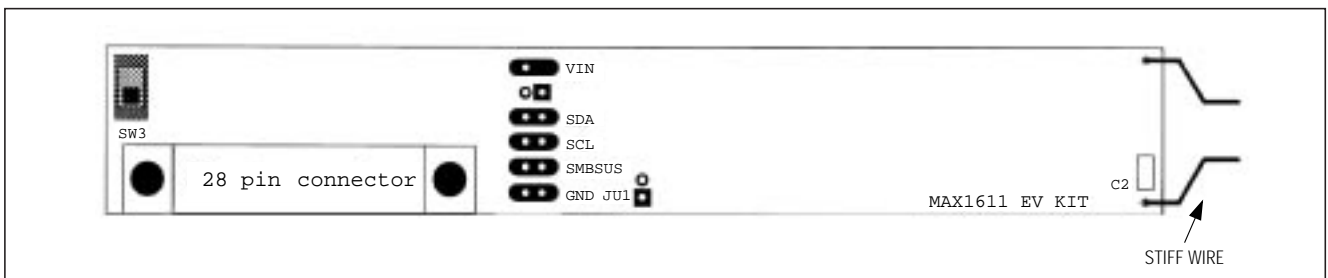

Figure 1. MAX1611 EV Kit Overview
- 1) A cold-cathode fluorescent lamp (CCFL) has two terminals. Usually the CCFL is built into an LCD panel, and a plastic female connector extends from the panel. The holes in the female connector are just big enough to allow insertion of the leads from a 1/8W through-hole resistor. Cut off the resistor's two leads and use them as pieces of stiff wire. Solder the wire into the two holes on the far-right side of the EV kit. Bend the wire to form a suitable male connector for attaching the plastic female connector from the LCD panel. Push the female connector onto the male connector (Figure 1).
- A cold-cathode fluorescent lamp (CCFL) has two terminals. Usually the CCFL is built into an LCD panel, and a plastic female connector extends from the panel. The holes in the female connector are just big enough to allow insertion of the leads from a through-hole resistor with a value of 1/8W. Cut off the resistor's two leads and use them as pieces of stiff wire. Solder the wire into the two holes on the far right side of the EV kit. Bend the stiff wire to form a suitable male connector for attaching the plastic female connector from the LCD panel. Push the female connector onto the male connector (Figure 1).